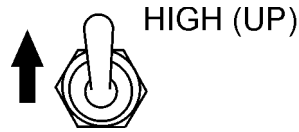

Figure 31. Engine Speed Switch (High)
7. If the engine is running smoothly, place the engine speed switch (Figure 31) in the **HIGH** (up) position.